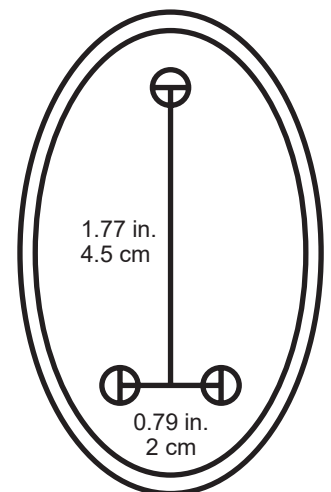

Figure 4
- If you will use the infrared sensors, prepare locations for them on opposite sides of your gate. They should be directly across from one another at least 6'7" (2 m) apart and no further apart than 65 feet (20 m). It is recommended that they be placed out of direct sunlight if possible. Pilot holes for their support bolts (not incl.) should be placed as shown in Figure 4.